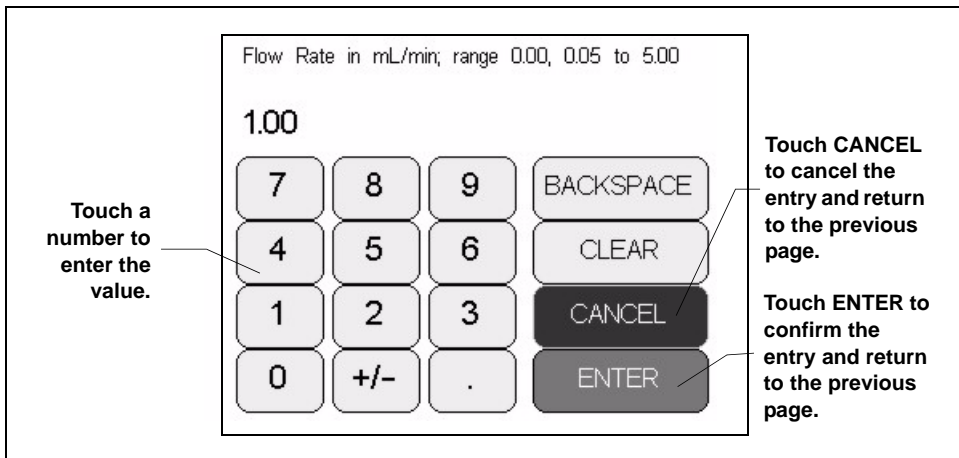

Figure C-2. Number Keypad
- Touching an edit field (for example, ) opens a page with a number keypad (see Figure C-2). Use the keypad to enter the desired numerical value for the field and then touch the **ENTER** button.